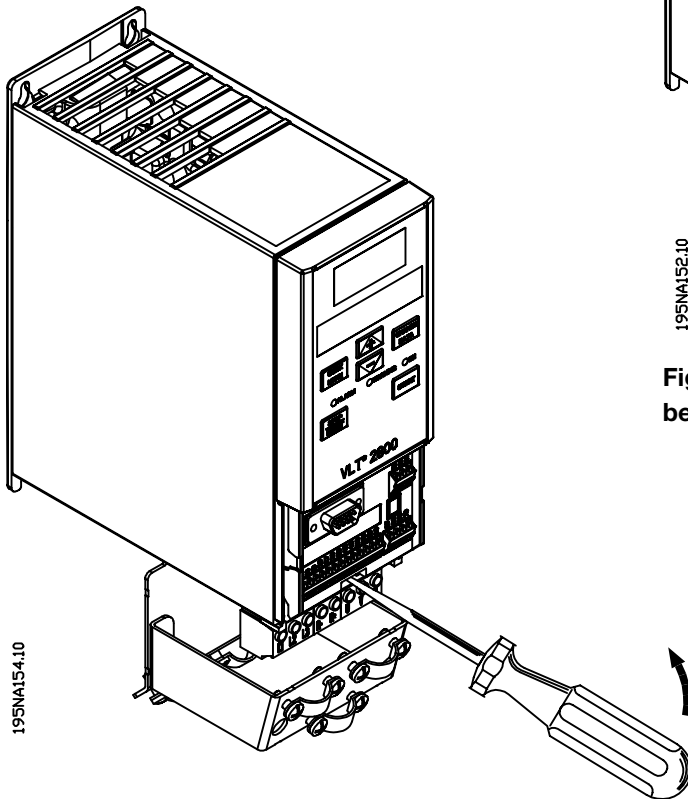

Fig. 3: Moving the front cover with a screw driver
1. Remove the front cover by using the screw driver, see figure 3